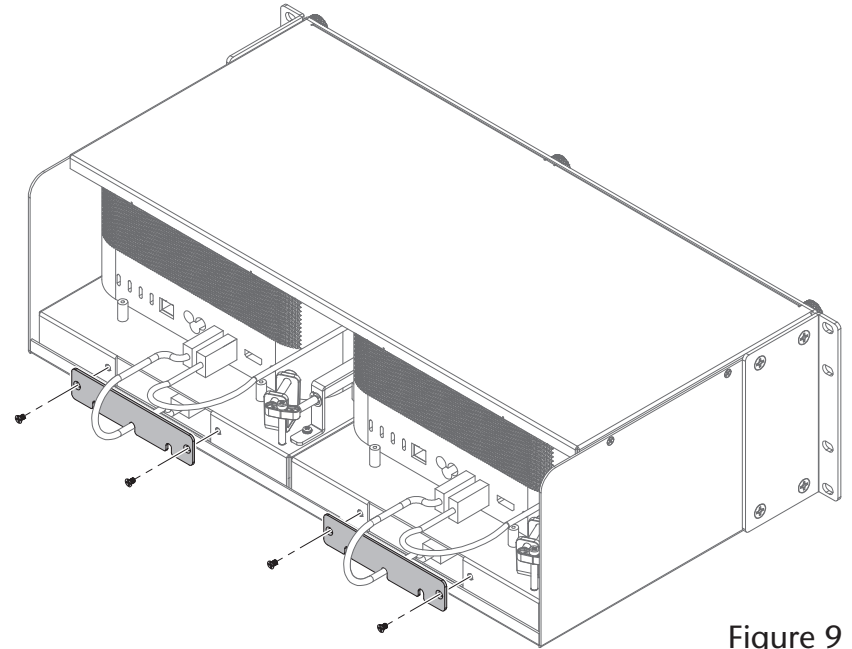

Figure 9
5. Using the previously removed screws, secure the accessory space/airflow integrity cover plates to the enclosure (**Figure 9**).